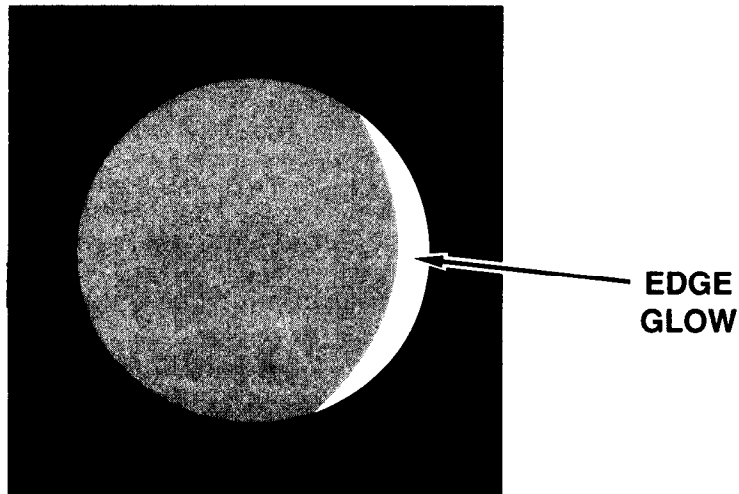

**Figure 2-1. Shading.**
a. Shading. Each monocular should present a perfect circle. If shading is present, you will not see a fully circular image (fig. 2-1 ). Shading always begins on the edge and moves inward. If shading is present, the image intensifier must be replaced by AVIM.